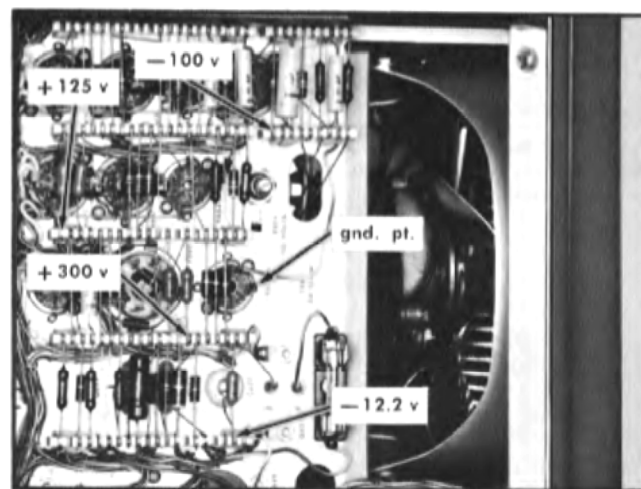

Fig. 5-1. Bottom of oscilloscope showing Power Supply test points.
2. Check the voltage accuracy of each supply output with the 20,000 Ω /volt dc voltmeter according to Table 5-3. The test points are shown in Fig. 5-1.
Ground-loops can cause an erroneous ripple measurement. One way to avoid this is to temporarily disconnect the chassis ground wire in the power cord by using an ungrounded 3 to 2 wire line plug adapter. Then use a ground lead from the signal probe body, grounded at pin 1 of V639 (shown in Fig. 5-1). The probe will then provide the only ground connection between the two instruments.